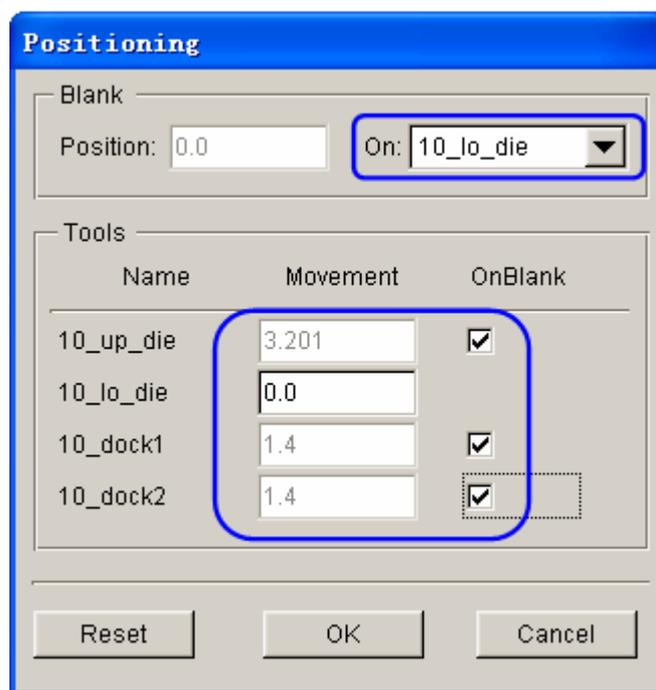

Figure 3.29 After tools auto positioning
3. Select lo_die in the drop-down list for On in **Blank** group as the reference tool for auto positioning, which means that this tool is fixed during auto positioning. Then activate the checkboxes for up_die, dock1 and dock2 in Tools group to auto-position all the tools and blanks. The result is illustrated in Figure 3.29.